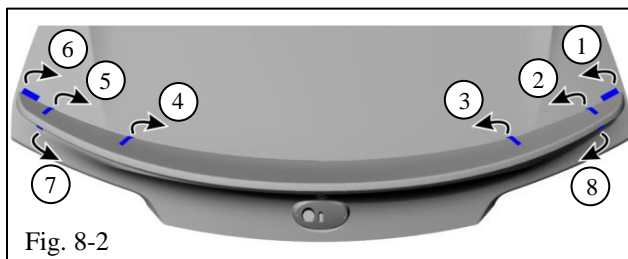

Fig. 8-2
- (d) Remove the tape liners in the numerical order and direction as shown in Fig. 8-2.